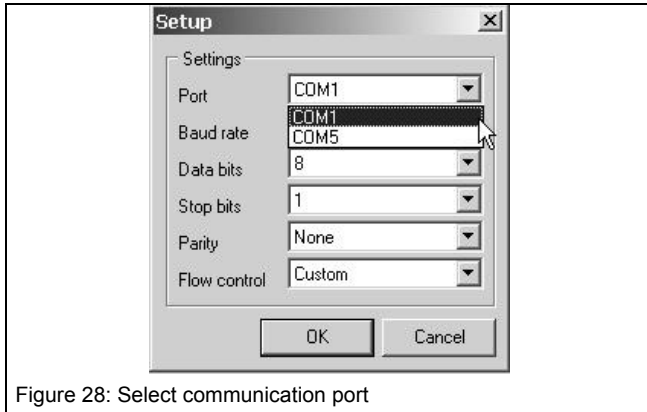

Figure 28: Select communication port
- Select the COM with menu "Option – Comport settings" (Figure 28). Normally COM1 stands for the serial link (RS232) and COMx for the USB interface (see Figure 15).
- Select the COM with menu "Option – Comport settings" (Figure 28). Normally COM1 stands for the serial link (RS232) and COMx for the USB interface (see Figure 15)